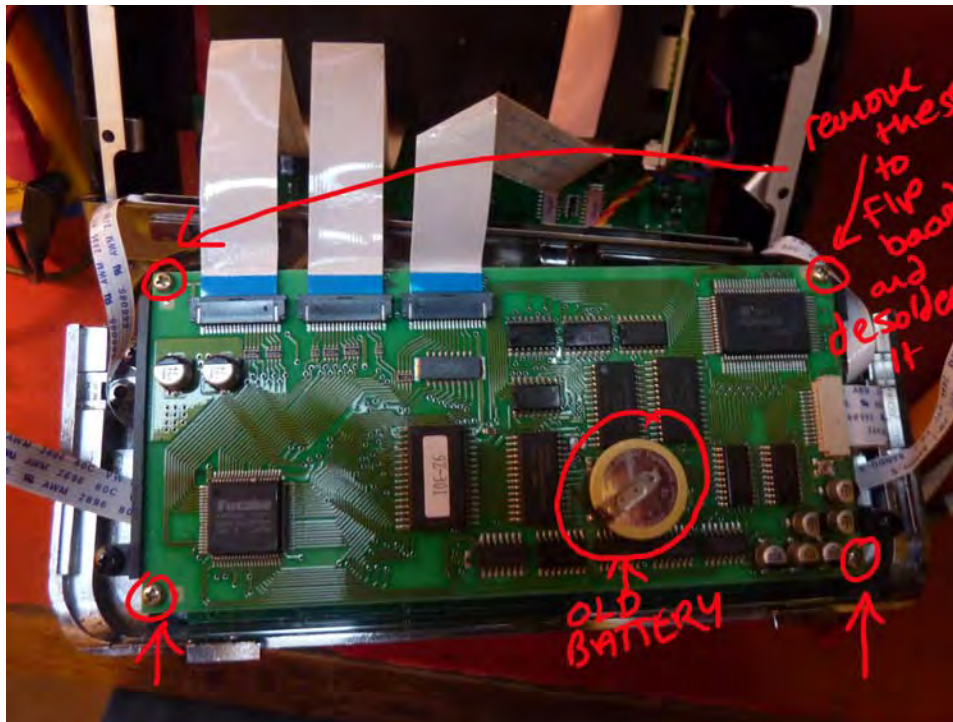

Figure 26 Removing the top PCB of the LCD Assembly
6. Remove the 4 screws retaining the top PCB of the LCD assembly (see Figure 26).